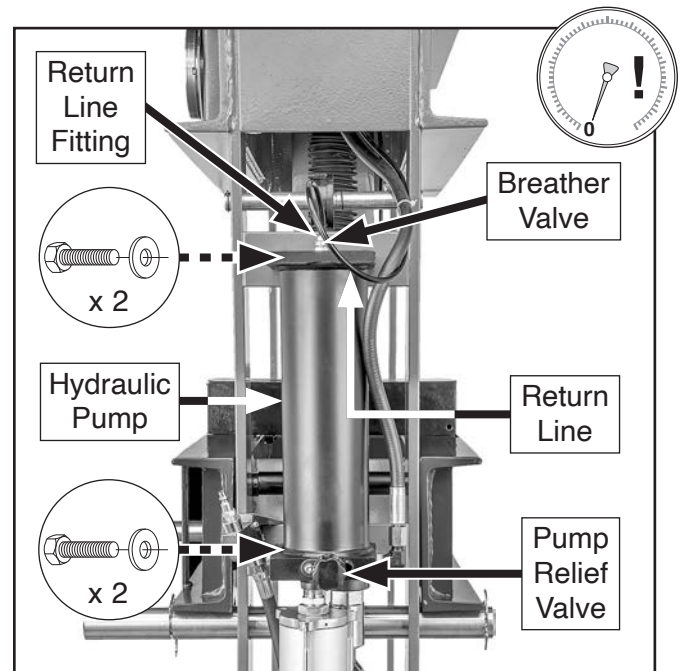

Figure 38. Location of hydraulic system components.
2. Rotate breather valve and pump relief valve counterclockwise to release hydraulic system pressure (see **Figure 38**).
3. Disconnect return line from return line fitting (see **Figure 38**), then place return line in drain pan until oil stops draining from line.
4. Remove (4) hex bolts and flat washers securing hydraulic pump (see **Figure 38**), then place hydraulic pump in drain pan.